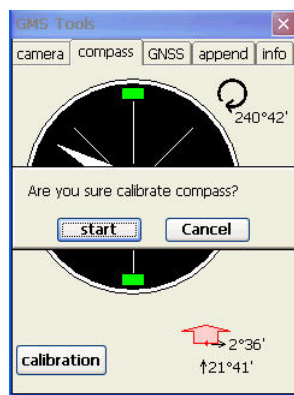

Figure 4-4. Begin Compass Calibration
2. Place the unit horizontally on a flat surface, and tap **Start** at the confirmation (Figure 4-4 on page 4-6).